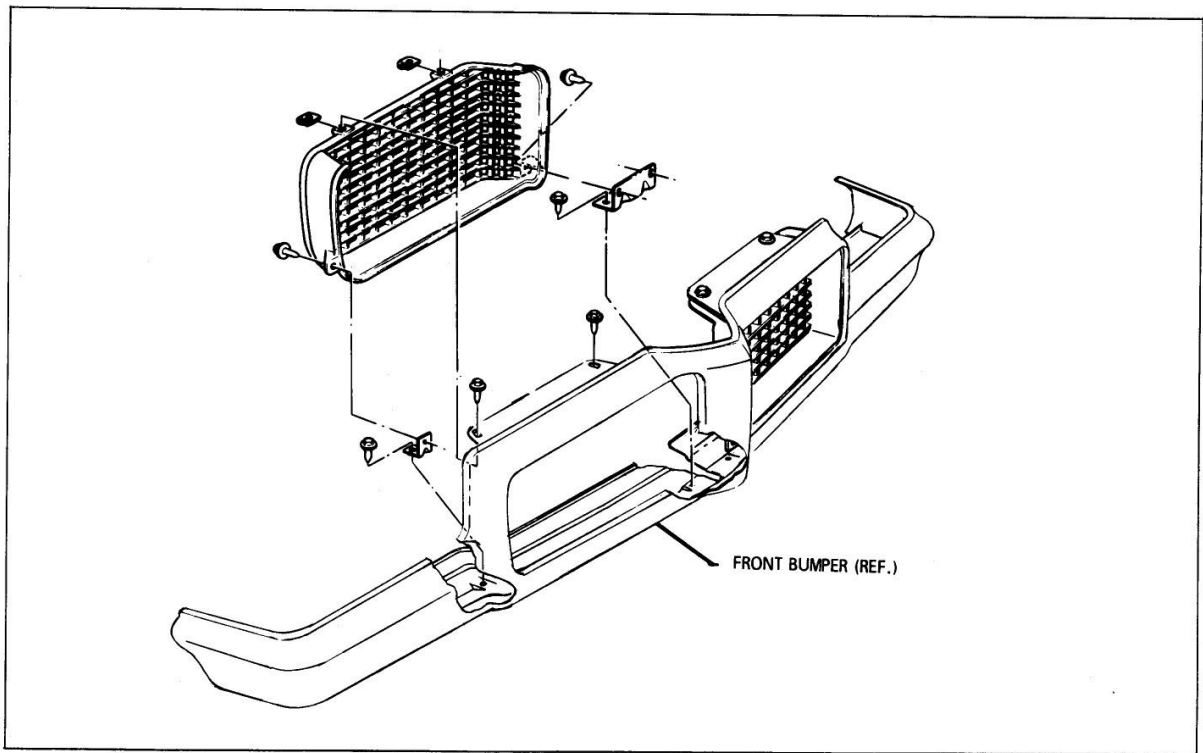

Fig. 14-8 Tempest Grille
4. Remove grille shells (Fig. 14-8).